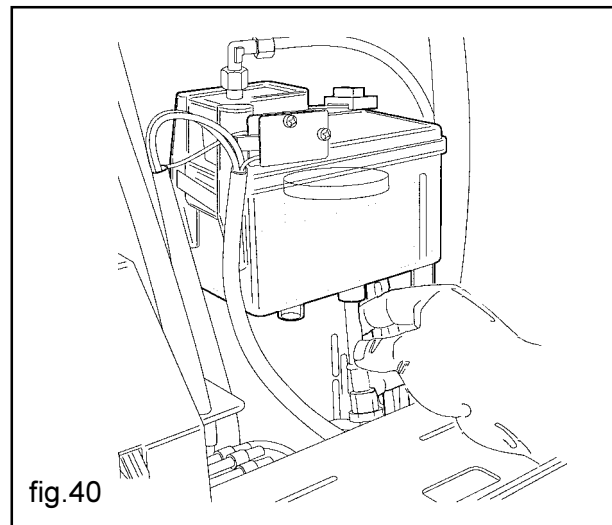

fig.40
*Compress the tube which connects the boiler to the water chamber several times; keep on doing so until the air bubbles which may have formed have been eliminated (fig.40).*